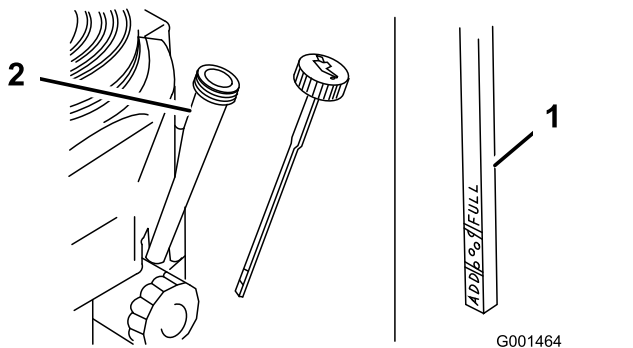

Figure 22
3. Clean around the oil dipstick (Figure 22) so that dirt cannot fall into the filler hole and damage the engine.
4. Unscrew the oil dipstick and wipe the end clean (Figure 22).
5. Slide the oil dipstick into the filler tube fully, but do not thread it onto the tube (Figure 22).
10. Slowly pour approximately 80% of the specified oil into the filler tube (Figure 22).